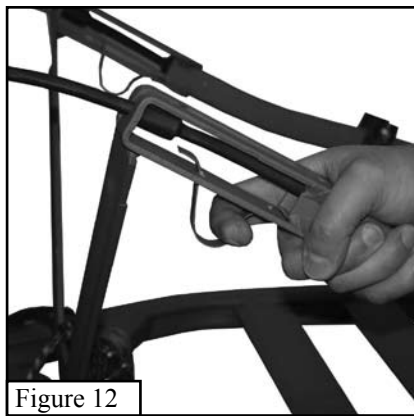

Figure 12
**Step 1.** Attach the base platform to the tree first. To do this, pull down and hold the QuickDraw cable spring as shown in *Figure 12*. This will release the locking tab from the cable, allowing you to remove it from the cable bracket.